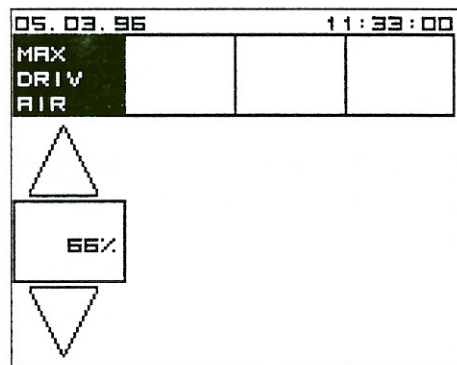

Figure 21. Turbine driving air 2.
- 3) Adjust using A2 and A4 (Fig. 21) and run the turbine at maximum speed for at least a minute. If the pressure increases or falls by more than 0.2 bar, check the pressure switch of the compressor.